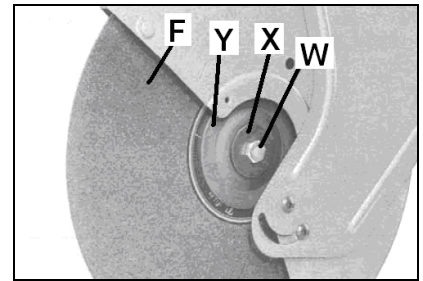

Fig 10
Push the spindle lock button (C) and loosen the abrasive wheel clamping screw (W, Fig 10) with the supplied spanner.